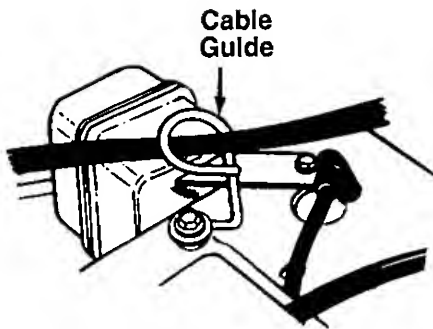

FIGURE 7.
6. **Models 646F and 666H only:** Slip the cables that run from the handle panel to the chute into the cable guide located on top of the engine. See figure 7.